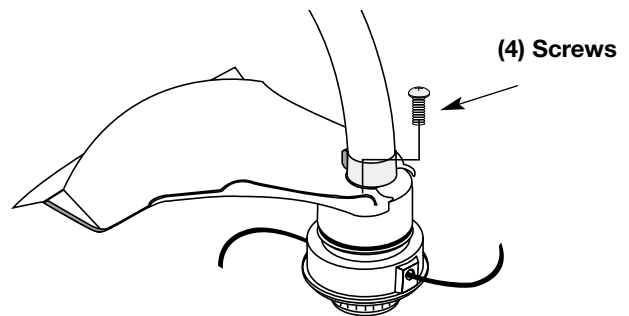

Figure 4
3. Install the four (4) screws with a Phillips screwdriver. Tighten securely. See Figure 4.